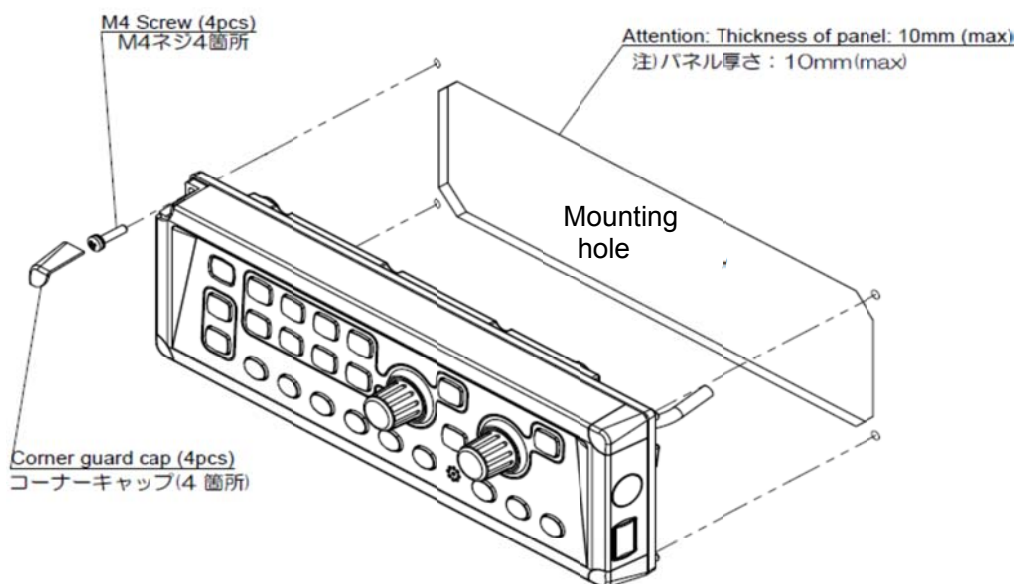
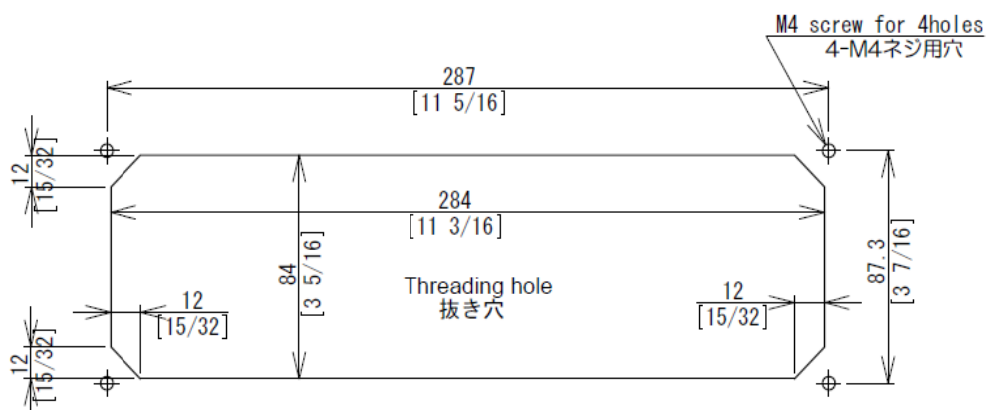

Fig. 1.5 Flush-mount installation of Operation unit
Fig. 1.6 Hole for flush-mount installation of Operation unit
- (1) Make a square hole at the location to be installed (See Fig. 1.6)
- (2) Remove 4 plastic corner guard caps of the Operation unit (These can be easily pulled out upwards).
- (3) Confirm that the Operation unit matches the mounting hole. If not matches, correct the mounting hole.
- (4) Put the Operation unit and connected cable into the mounting hole, and set it to the position in which the Operation unit becomes parallel to the install panel. (Fig. 1.5)
- (5) Install the Operation unit in the installing location (Mounting hole) and fix it with 4 tapping screws (4 mm) (M4 or pan-head). (Prepare 4 mm screws suitable for thickness of installing location.)
- (6) Install the corner guard caps removed in step (2).